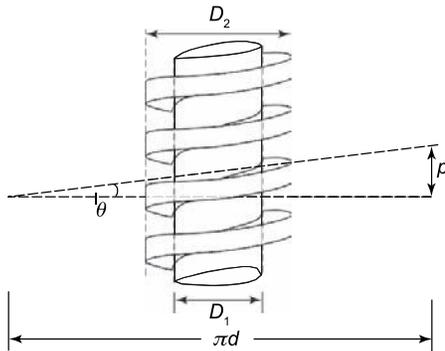

Figure 16.15
Consider the thread of the square-threaded screw jack shown in Figure 16.15.
From Figure 16.15, the motion of the screw in lifting the weight can be regarded as pulling the weight by a horizontal force P , up an incline θ , where
$$\tan \theta = \frac{p}{\pi d} \quad \text{as shown in Figure 16.15,}$$
However, from Figure 16.15,
From Figure 16.15, the **actual work done** $= P \times \pi d$
- The coefficient of friction on the sliding surface of a screw jack whose thread is similar to Figure 16.15, is 0.24. If the pitch equals 12 mm, and $D_1 = 42$ mm and $D_2 = 56$ mm, calculate the efficiency of the screw jack.